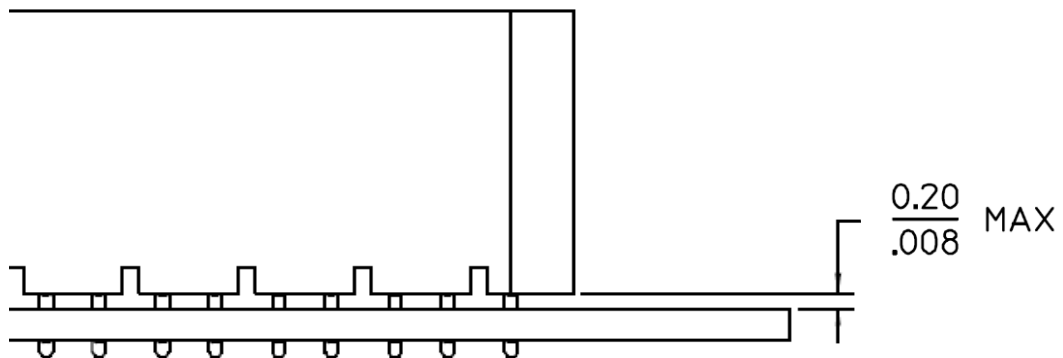

Figure 6.1: CONNECTOR SEATING DIMENSION
- 6.9** Check that connector is fully seated on the PCB and that all compliant tails were pressed in without any bent pins. See Figure 6.1.
- * The plastic shroud should be seated and flush to the PCB, a maximum allowable gap of 0.20mm is acceptable (see figure 6.1).